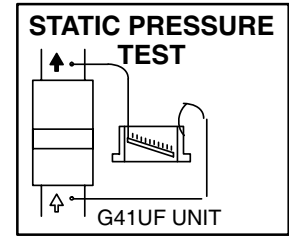

FIGURE 31
- 1 - Measure tap locations as shown in figure 31.